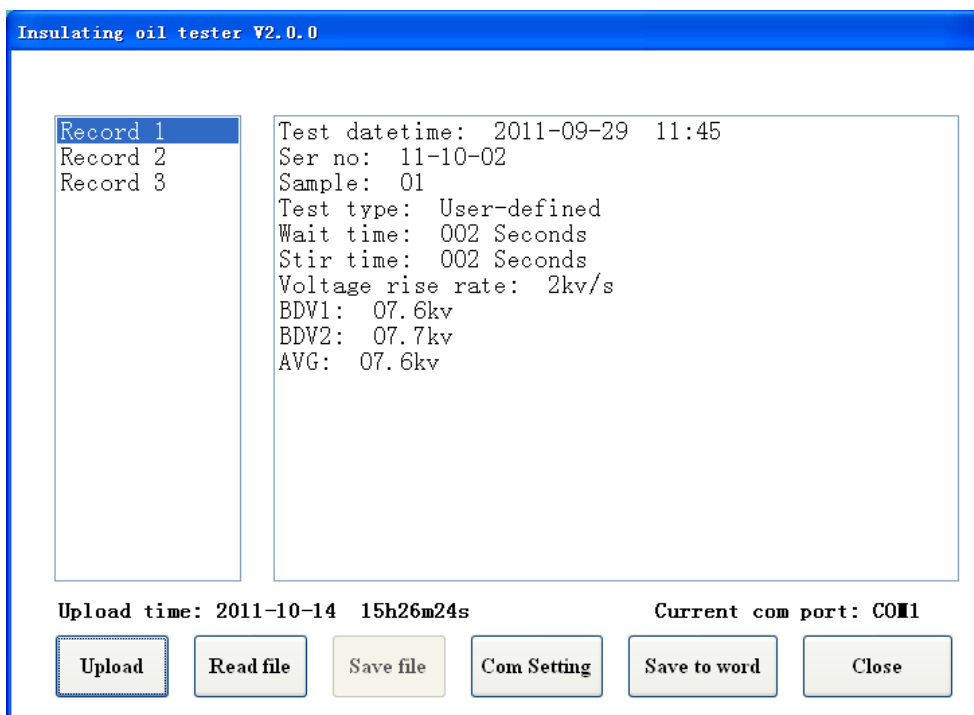

Figure 21 Saved data display
- 5) The application would ask you about data files saved name and path when the upload procedure is end. All the data saved in the tester would be shown as figure 21.